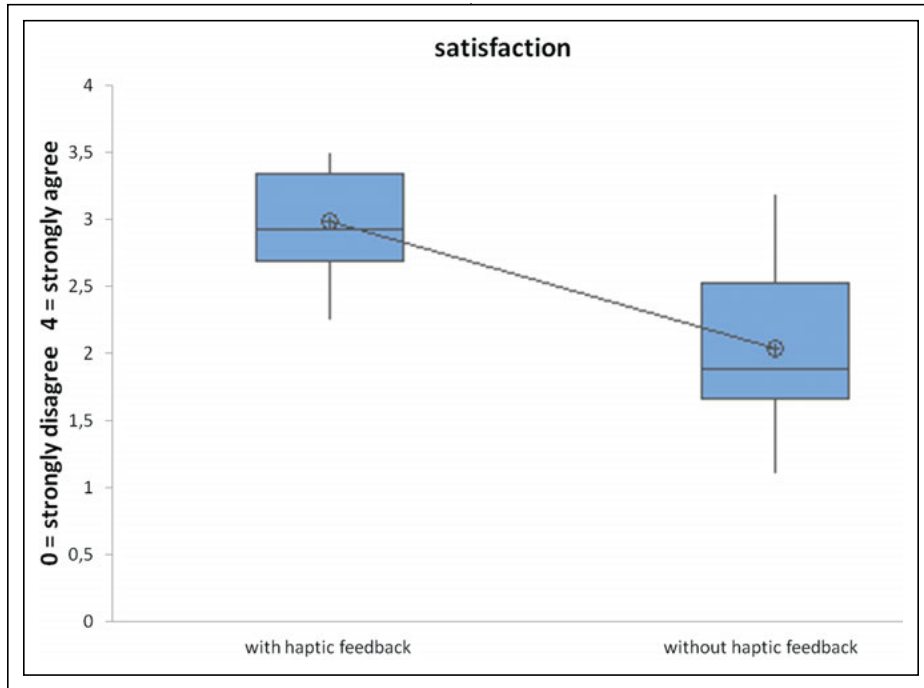

Fig. 6: With haptic feedback (left), drivers are more satisfied with their control actions than without (right).
- The questionnaire results also advocate the use of haptic feedback. Without exception, details such as the low mental workload, easy achievement of goals, low perceived effort of learning, fast familiarizing with the control concept, and low perceived error rate confirm the satisfaction with haptic feedback across all test drivers. This effect is statistically also highly significant (Fig. 6).